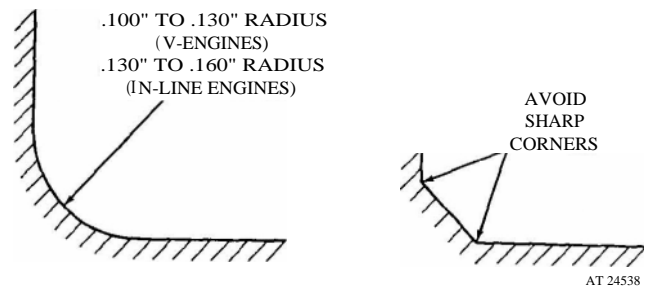

Figure 9. Crankshaft journal fillets.
5. When regrounding crankshafts, all journal fillets on the In-line crankshafts must have a .130" to .160" radius between the crank cheek and the crank journal, see figure 9. The fillets must not have any sharp grind marks, and must blend smoothly into the journal and cheek, and be free of scratches.
8. If thrust surfaces of the crankshaft are worn or ridged excessively, they also must be ground undersize. See Section 1.3.4 for the installation of oversize thrust washers. When the thrust surfaces of the crankshaft are ground undersize, special care must be taken to leave a .130" to .160" radius on the In-line engine crankshaft, between the thrust surfaces and the bearing journal (fig. 9). This radius may be checked with a fillet gage.